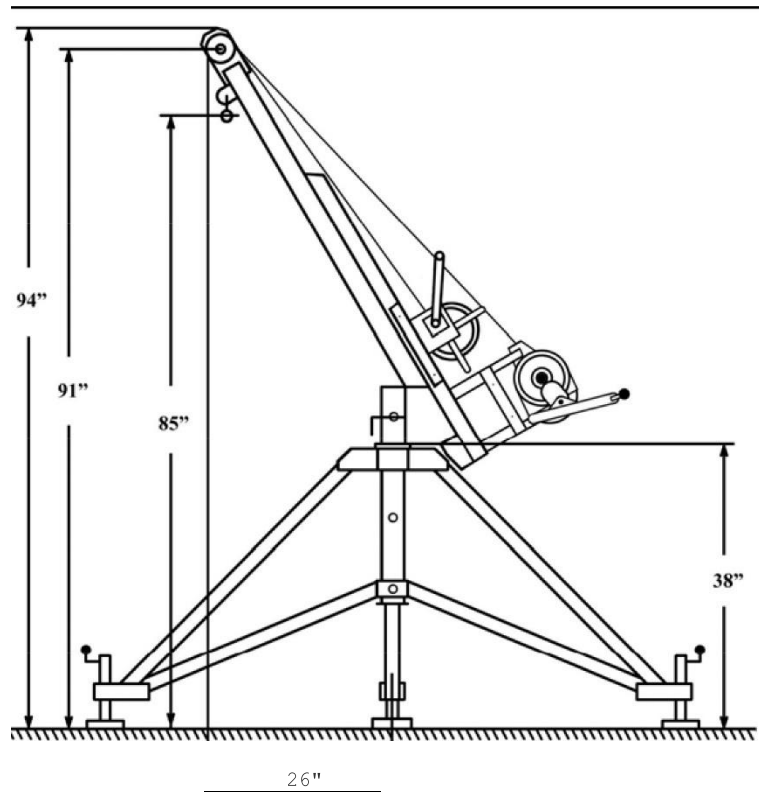
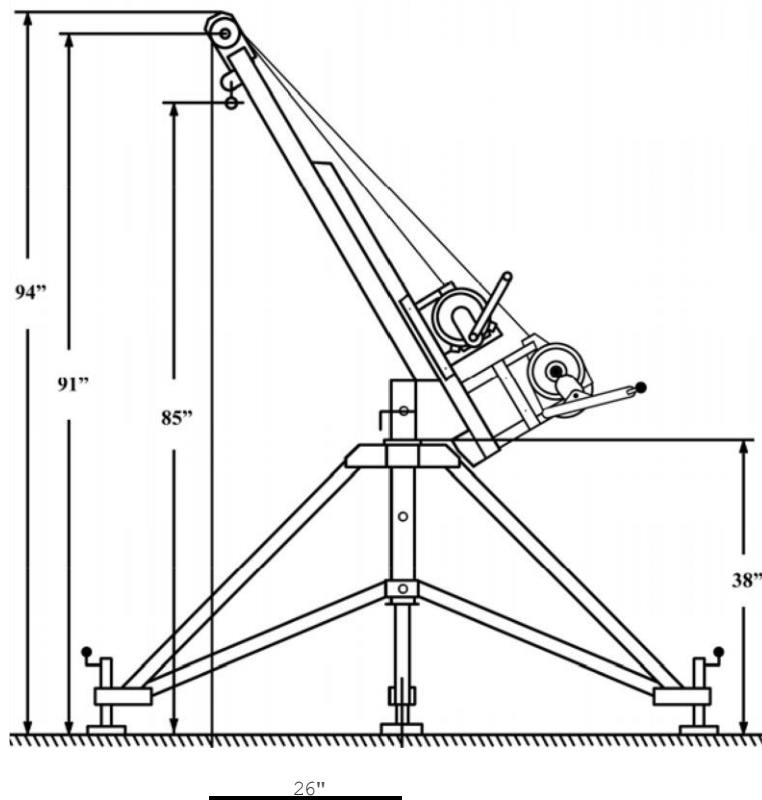

Fig.1 Installation of Fall Arrest and Recovery Equipment
Figure 2. Installation of Fall arrest and Recovery Equipment
The FCP Quadpod Model FCPQ200 (Figures 1 and 2) is a portable, lightweight, high-strength anchor point for FCP confined space and rescue equipment and is part of a system which includes fall arrest and recovery equipment as well as a Personnel or Material Winch. The major parts of the FCP Quadpod are illustrated in Figures 1, 2, 3 and described below.
1. Boom (Figure 1). The boom is made of steel, and has on one end a cylinder (1) for attaching to the base. The opposite end of the boom has two pulleys (2) with a security pin (3) for the fall protection and rescue equipment. There are two brackets (4 and 5) for the attachment of FCP types of fall protection and recovery systems. There exist two sets: Three-Way Fall Protection and Recovery Unit with a Work Winch (Figure 1), and Three-Way Rescue and Recovery Unit with Personnel Winch (Figure 2). In Figure 3 bracket (4) is for the attachment of a Three-Way fall protection and recovery unit and bracket (5) is for the attachment of a Work Winch. In Figures 2 and 3, bracket (4) is for the attachment of a 3 Way Rescue and Recovery Unit and bracket (5) is for attachment of a Personnel Winch. When the boom is attached to the base by the cylinder, the boom can be rotated by an angle of 360 degrees. The screw handle (6) is designed to fix or release the boom on the base in the necessary position.